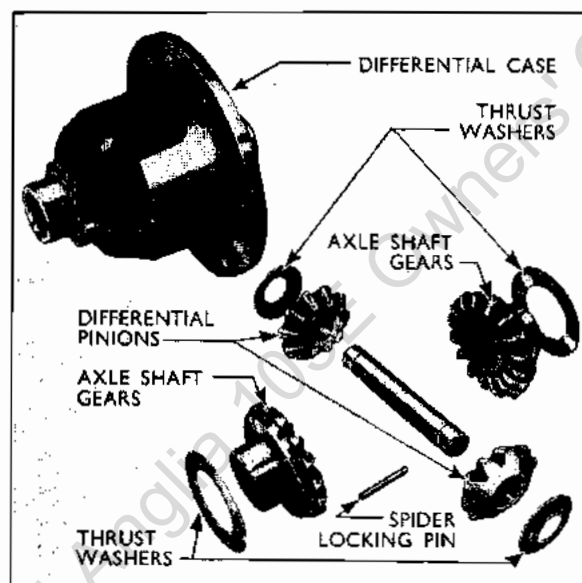

Fig. 13
1. Lubricate the flat thrust washers and position them on the backs of the axle shaft gears, then locate the gears in the differential case, see Fig. 13.